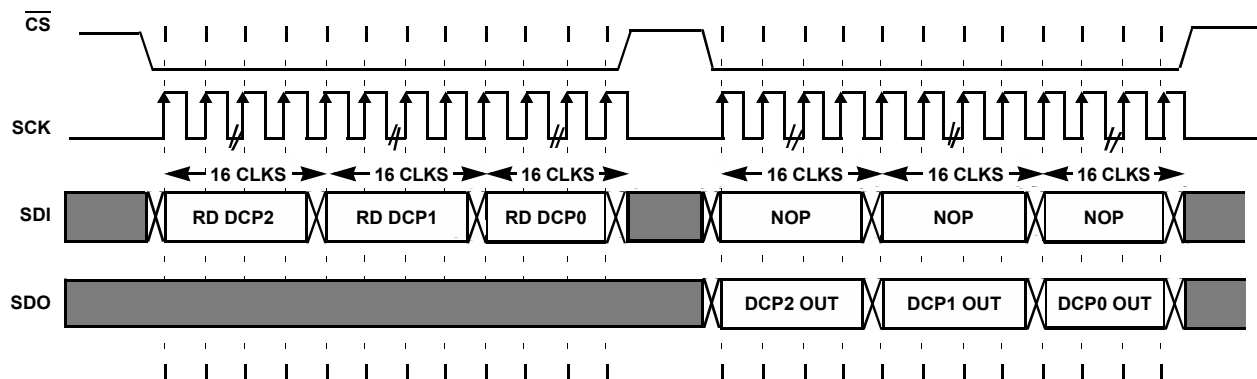

FIGURE 8. DAISY CHAIN READ SEQUENCE OF N = 3 DCP
2. The master reads the requested data on MISO in sequence shown on Figure 8 while sending three 2-byte NOP operations (48 clocks). Note, that CS has a positive pulse after first portion of the sequence (or after first 48 clocks).